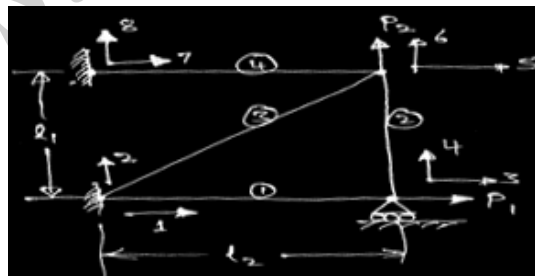

Fig: 2
- A four-bar truss as shown in Fig: 2 is subjected to the loading conditions. The modulus of elasticity of material is 20000 N/mm^2 . The area of the bar used for the truss is 60 mm^2 for all elements. The length $l_1 = 75 \text{ cm}$, and $l_2 = 100 \text{ cm}$. The load $P_1 = 20 \text{ kN}$ and $P_2 = 25 \text{ kN}$. Assemble the structural stiffness matrix for the entire truss.